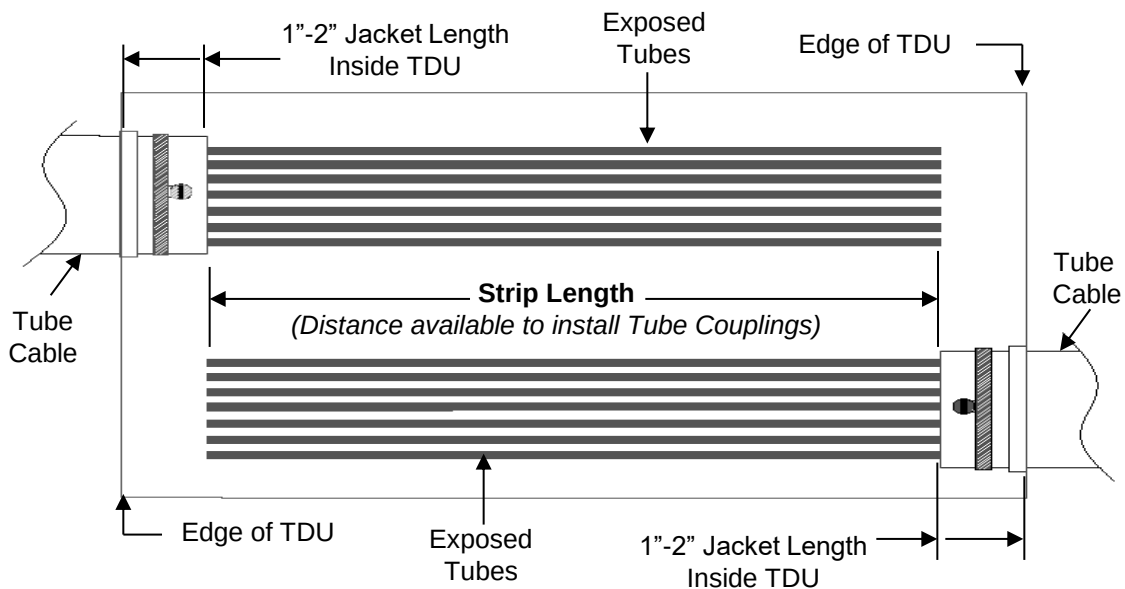

Figure 3
7.2 Allow at least 1"-2" of outer jacketing material on both tube cables to be left inside TDU. Mark each jacket. **See Fig. 3.**